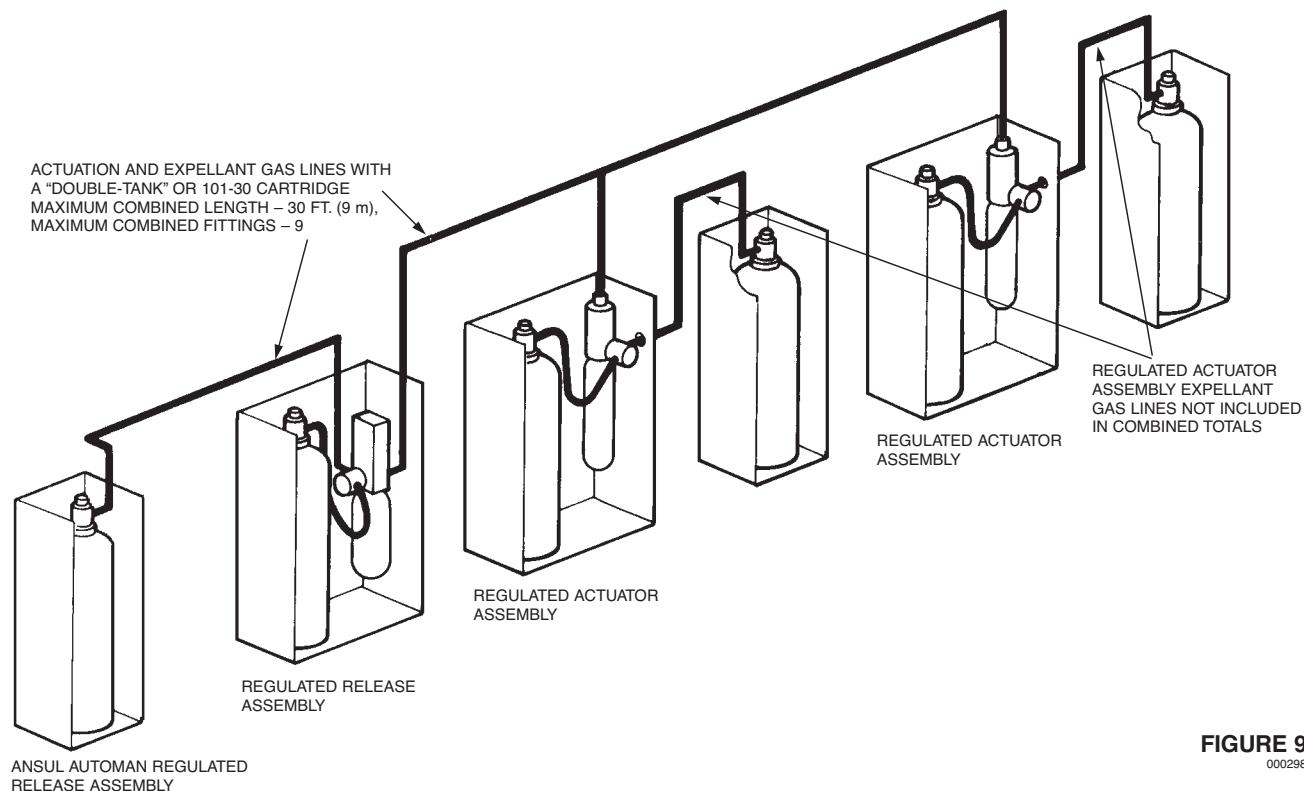

FIGURE 9
4. If an expellant gas line is connected to the regulated release assembly along with an actuation gas line, the total combined length of the actuation and expellant gas line **must not** exceed 30 ft. (9 m). See Figure 9.
4. If an actuation gas line is connected to the regulated release assembly along with an expellant gas line, the total combined length of the gas lines **must not** exceed 30 ft. (9 m) when using a “double-tank” nitrogen cartridge or a 101-30 CO₂ cartridge. See Figure 9.